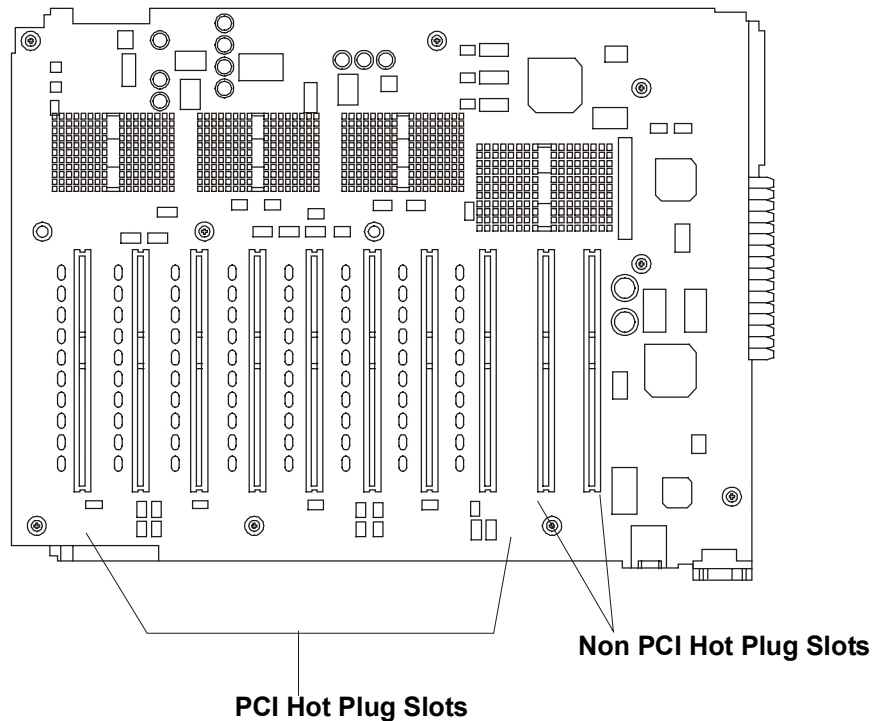

Figure 30. Accessory Slots
6. Identify the accessory slot number to be used. See Figure 30.